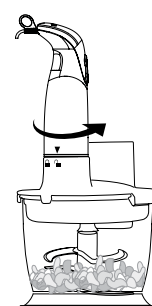
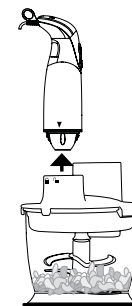

FIG. 9a.
FIG. 9b.
9. Remove the lid by pulling out the locking clips on either side of the lid as illustrated in Fig. 9a and 9b.
8. To stop the appliance, take your fingers off the switch button (I) or (II). Unplug the unit from the power outlet.
9. Turn the motor unit counter-clockwise until the arrow mark on the motor unit is aligned with the unlocked symbol (🔓) on the food processor lid as illustrated in Fig. 9a. Detach the motor unit from the lid as illustrated in Fig. 9b.